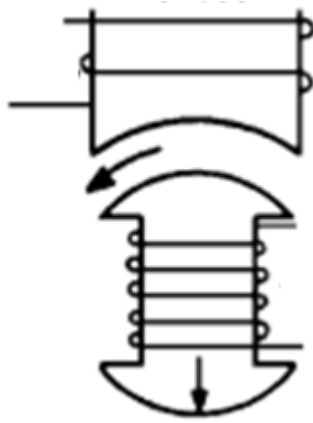

Fig Q1C
- 1C. Consider the stator and rotor position of a synchro given in Fig. Q1C. Calculate the stator voltage if the rotor is supplied with 230V, 50Hz supply with a winding turns ratio of 2.5:1.